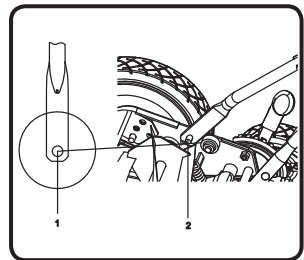

Fig. 3
- Place one of the round openings, at the bottom of the handle, over one of the steel studs on the mower frame paying particular attention to handle position. Then slowly apply lateral pressure to the other lower handle until it can be slid into and over the second steel stud, while keeping hands free of blades (Fig. 3).